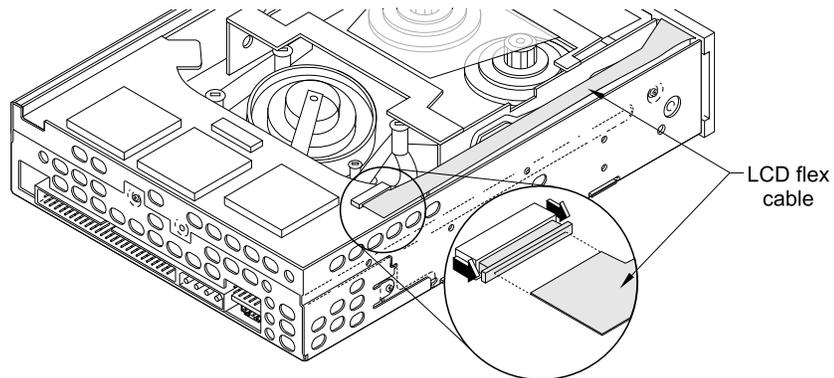

Figure 15 Loosening the tab on the LCD flex cable connector
3. If your faceplate has an LCD, pull the tab on the LCD flex cable connector toward the left side panel (see Figure 15).